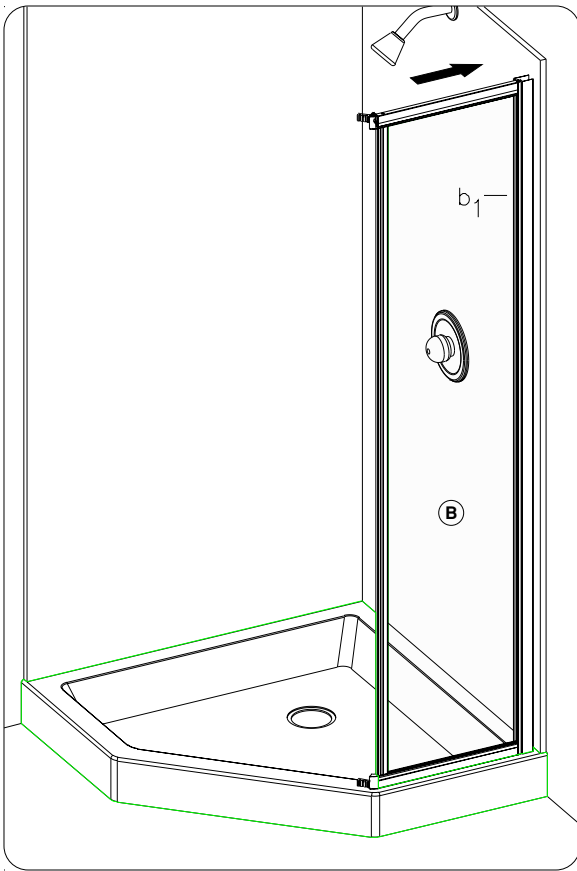

figure 1
Lift a Wing Panel Assembly (B) onto the base ledge (see fig.1) and slide assembly up against the shower wall. Make sure that the panel sill remains in contact with the shower base along the entire length.